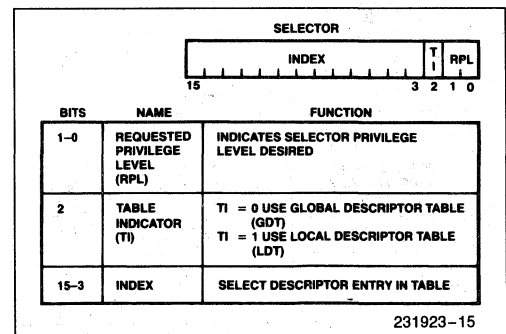

Figure 15. Selector Fields
A protected mode selector has three fields: descriptor entry index, local or global descriptor table indicator (TI), and selector privilege (RPL) as shown in Figure 15. These fields select one of two memory based tables of descriptors, select the appropriate table entry and allow highspeed testing of the selector's privilege attribute (refer to privilege discussion below).